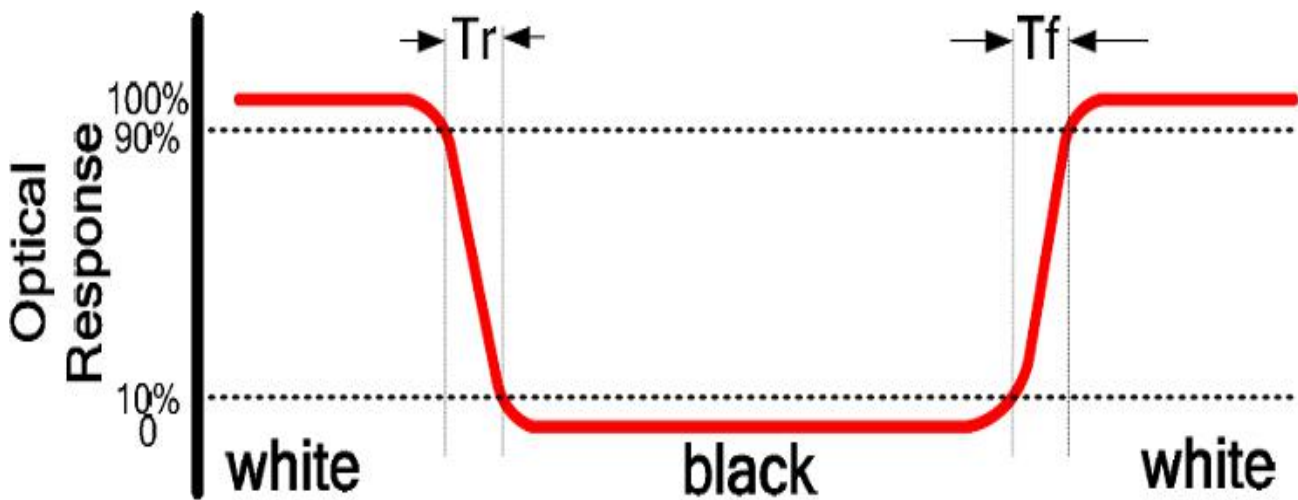

FIG2. Measuring method for Contrast ratio, surface luminance, Luminance uniformity, CIE(X,Y) chromaticity.
Note2.contrast Ratio(CR) is defined mathematically by the following formula ,For more information see FIG2.
value of contrast ratio is 2. The angles are determined for the horizontal or x axis and the vertical or y axis with respect to the z axis which is normal to the LCD surface. For more information see FIG3 Note5. Surface luminance is the LCD surface luminance with all white pixels, For more information see FIG2.